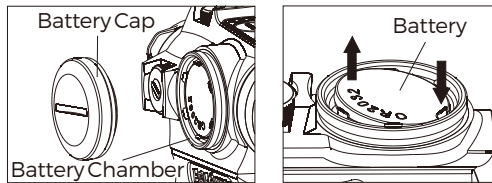

Fig 4-2
2) Battery replacement: (Fig 4-2)